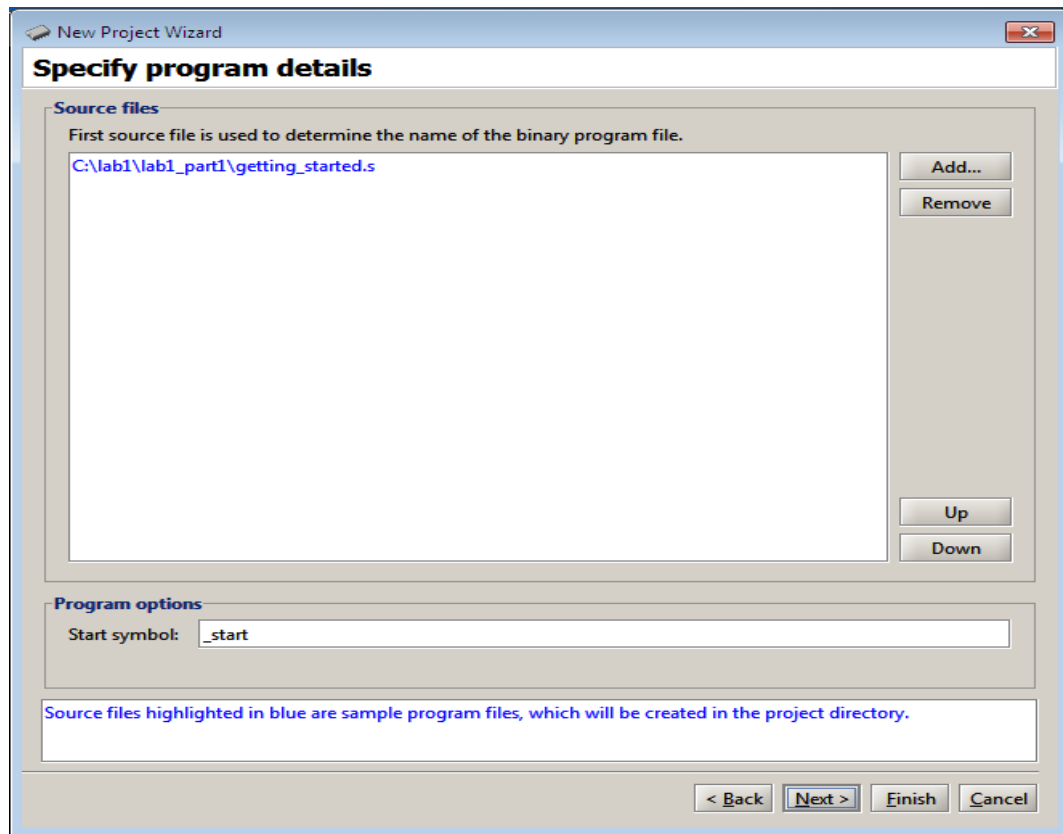

Figure 6: Source files used by the application program.
5. The window in Figure 6 is used to specify the source file(s) that contain the application program(s). Since we have selected the *Getting Started* program, the window indicates the files that are used by this program. This window also allows the user to specify the starting point in the selected application program. The default symbol is `_start`, which is used in the selected sample program. Click **Next**.
3. Upon reaching the window in Figure 6, you have to specify your program. Click **Add** and in the pop-up